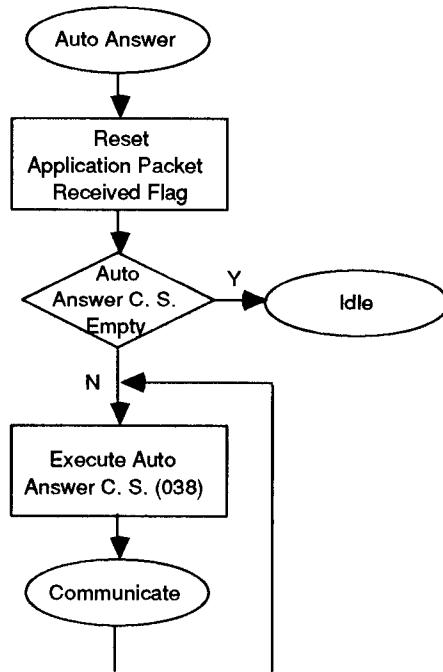

Figure 2-5. TRANZ 340 Auto Answer Routine
- For the PNC 340 or TRANZ 340, which does not receive an incoming ring, the operating system checks whether an application packet has been received. If it has, the terminal goes to auto answer. If not, the terminal proceeds to "idle control string enabled?" (See Figure 2-5, "TRANZ 340 Auto Answer Routine.") The TRANZ 330 (202) has no auto answer and proceeds to the idle control string.
Although the PNC 340/TRANZ 340 terminal does not have a modem, it is continuously polled by a controller and performs the auto answer routine whenever an application packet is received at the idle state. See Figure 2-5.